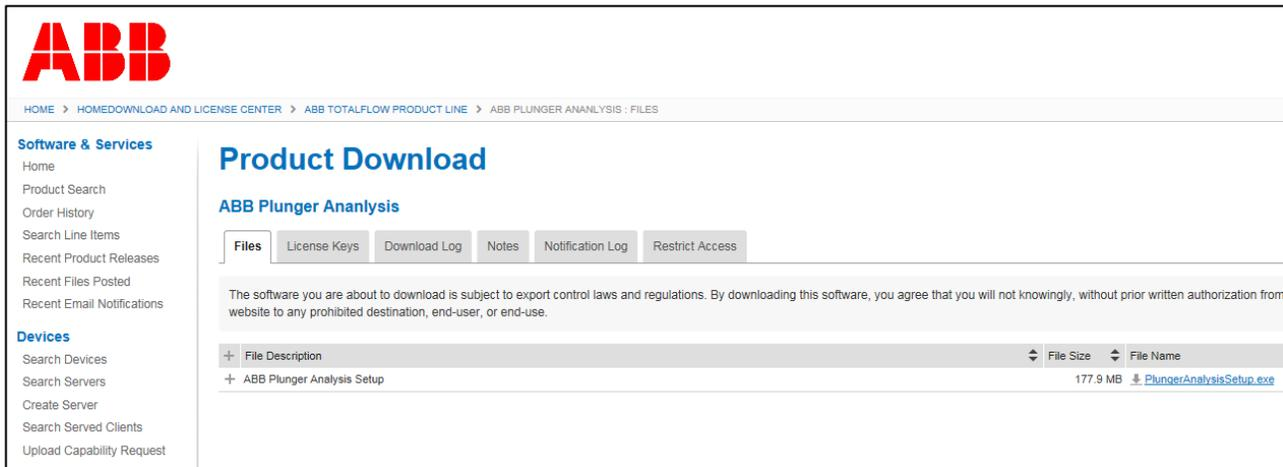

Figure 8: Plunger Analysis product download screen
- 2) At the Product Download page for Plunger Analysis (Figure 8), under the **Files** tab, click the **PlungerAnalysisSetup.exe** file.